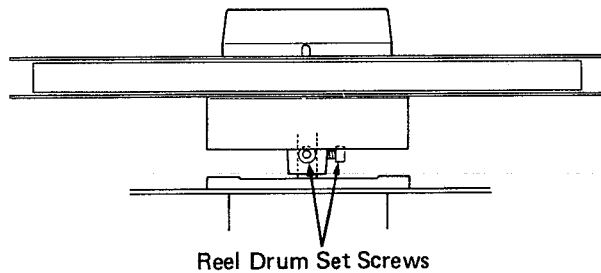

FIG. 18. REEL HEIGHT ADJUSTMENT
2. Loosen the two set screws shown in Fig. 18.